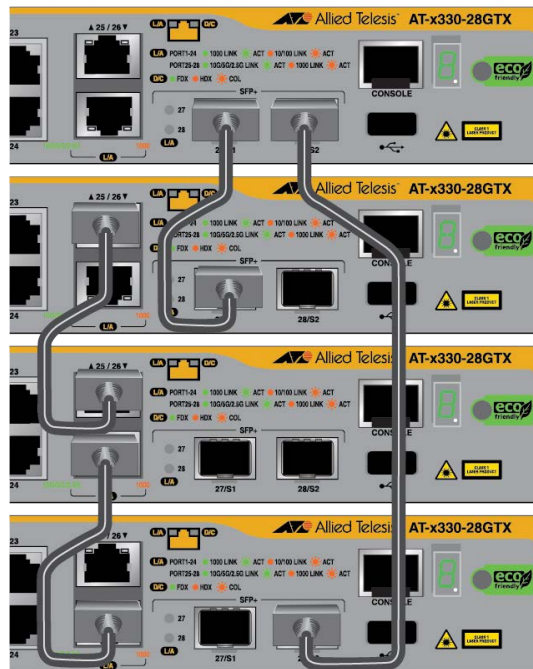

Figure 21. Unsupported Trunk of Multi-Gigabit Copper Ports and SFP+ Ports S1 and S2
- ❑ Trunks cannot have both Multi-Gigabit copper ports and SFP+ ports S1 and S2. Refer to Figure 21.